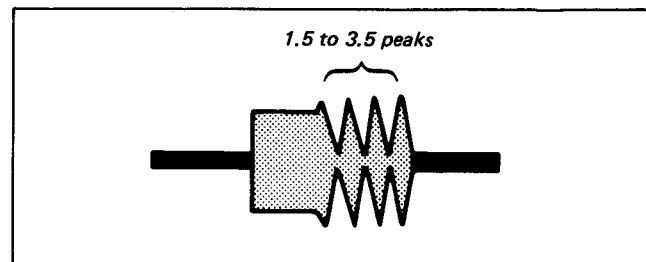

Fig. 8-79.
- 2) Check that the RF waveform on the exit side has 1.5 to 3.5 peaks. If not, readjust as follows. (Fig. 8-79)